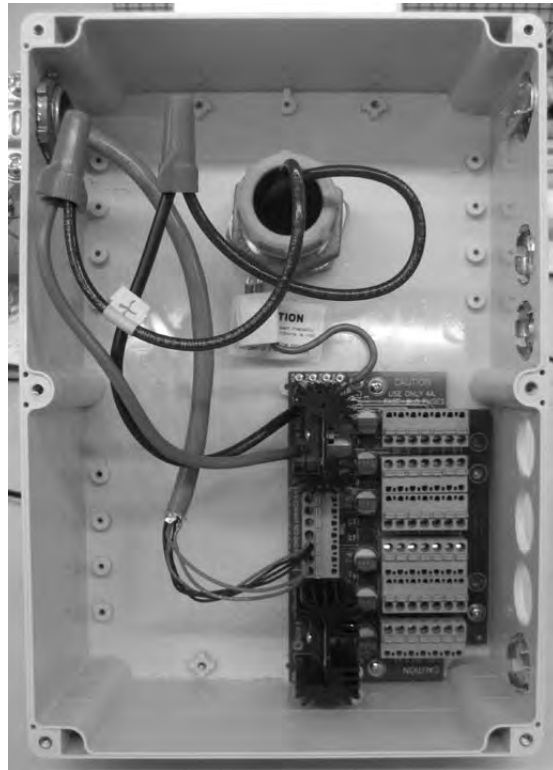

Figure 7: Distribution Panel / Fuse Box (Shown with one typical Class 2 circuit installed)
12. Using a section of the paired PLTC Cable, route the control leads from the signal filter(s) to the fuse box. See Figure 7.